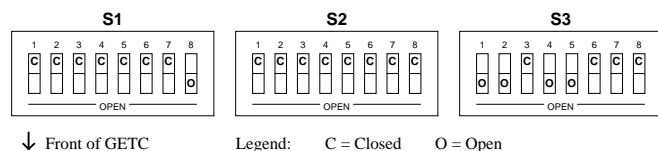

Figure 14 - Test Mode-GETC Modem Line Output
- Set the GETC DIP Switches to the Test Mode setting as shown in Figure 14.